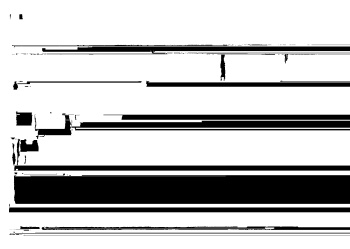

Fig. P2.22
**2.22** The fuel gage for an auto gas tank reads proportional to the bottom gage pressure as in Fig. P2.22. If the tank accidentally contains 2 cm of water plus gasoline, how many centimeters “ $h$ ” of air remain when the gage reads “full” in error?